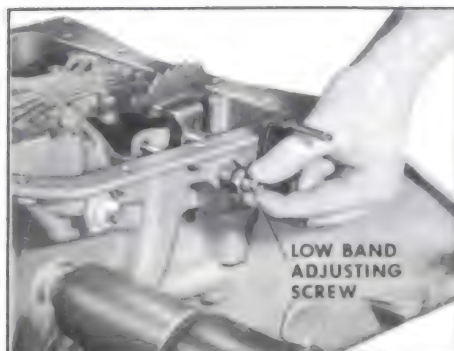

Figure 5-314
1. With transmission in vertical position install band adjusting screw into case. See Figure 5-314.